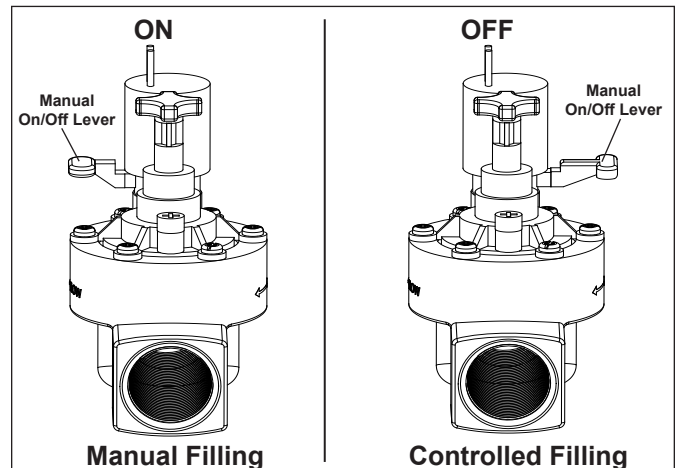

Figure 11. Manual Valve Lever
4. Put the manual ON/OFF lever, located just below the solenoid, in the OFF position, so it will only open with the electronic water Levolor. See Figure 11.